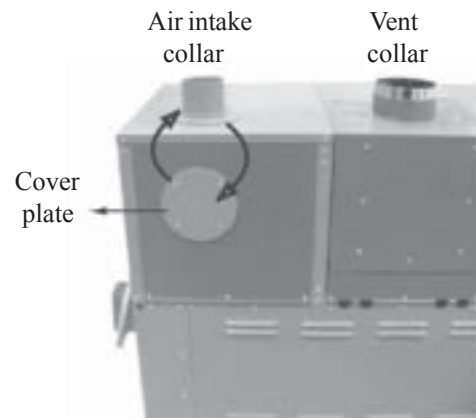

Fig. 1 Back of heater
3. Remove the four screws holding the cover plate. See **Fig. 1**.